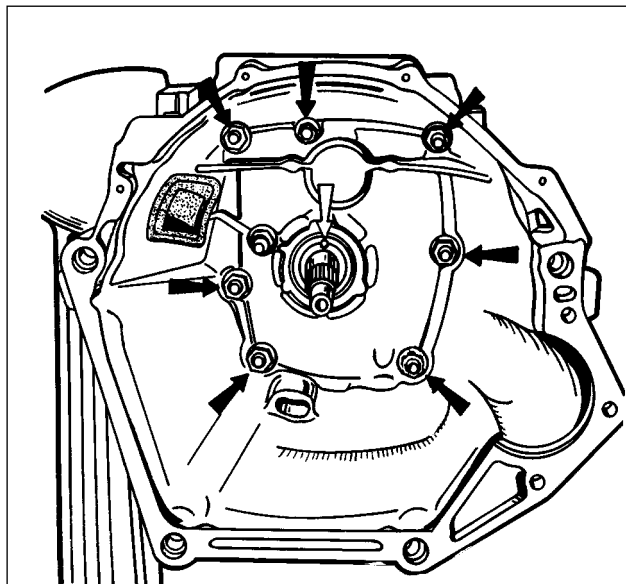

Fig. 3-15. Clutch bellhousing, view from inside.
Remove the clutch bellhousing with the lining and the front cover together with the oil seal and spring washer (see fig. 3-15).
- when refitting the clutch housing with the transmission casing front cover, the opening in the front cover should be located as shown on fig. 3-15;
Check the condition of the front cover and ensure that the input shaft does not touch it when rotating. If the shaft and the cover are not aligned against each other, replace the damaged parts. Ensure, that the oil drain aperture is not fouled (shown by an arrow on fig. 3-15). Clean the oil drain plug.